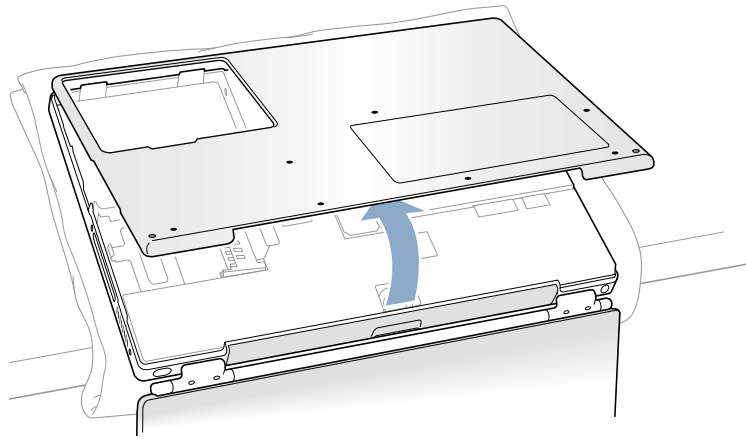

Figure 5
9. Pivot the bottom case up as shown (Figure 5).